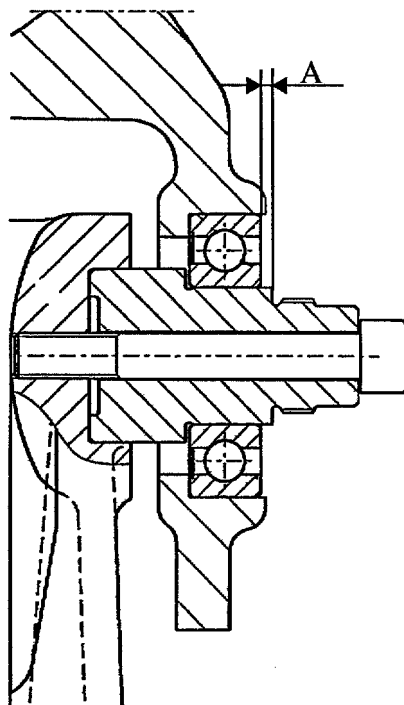

Figure 3 Measuring the shim thickness when preloading the bearing.
15. Hold the tool against the shoulder of the shaft spindle and measure the dimension “A”. See Figure 3.